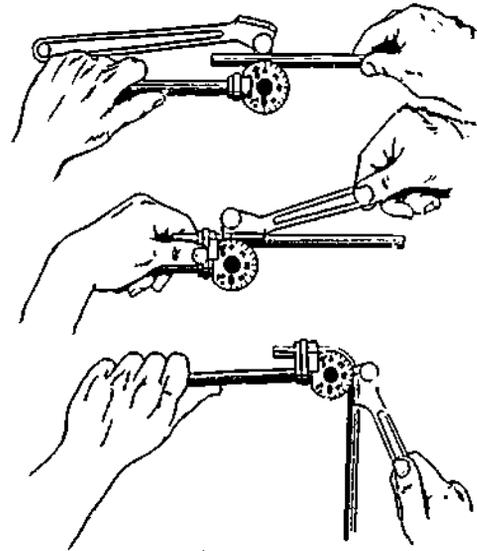

Figure 8-9. Open-Side Mandrel Tubing Bender
d) Shown in Figure 8-9 is one type of open-side mandrel tubing bender. "Open-side" means that one side is open so that the bender can be placed on the tubing at any point along its length.
e) The mandrel is the circular portion of the bender around which the tubing is formed or bent. Place the bender on the tubing at the point where the bend is required. The zero line on the bender indicates the start of the bend. Now close the bender as illustrated in Figure 8-9 and, by bringing your hands toward each other, bend the tubing around the mandrel until the index line on the arm indicates the angle of the bend that you want. Then open the bender and remove it from the tubing. For larger tubing, similar mandrel-type benders are used. These are often geared for greater mechanical advantage but their operation is basically the same.